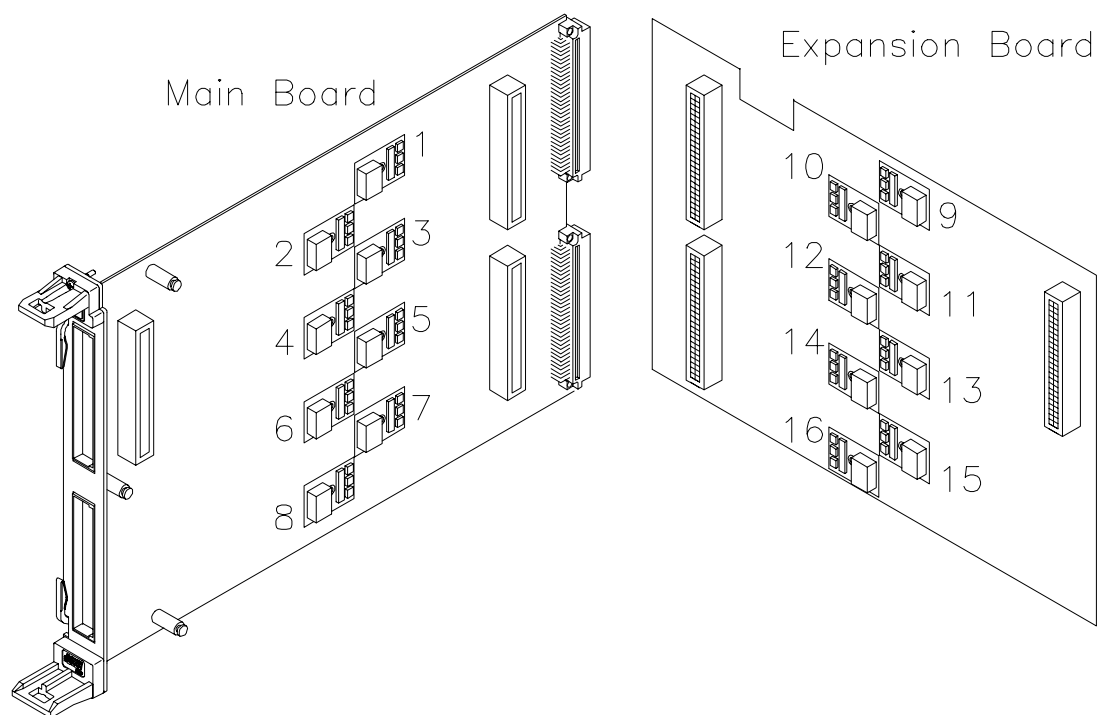

Figure E-3. Plug-on Channel Locations
3. Refer to Figure E-3 for the locations of the isolated/non-isolated plug-on modules. Each channel *must* have a plug-on module. Remove the screw securing the plug-on module(s).